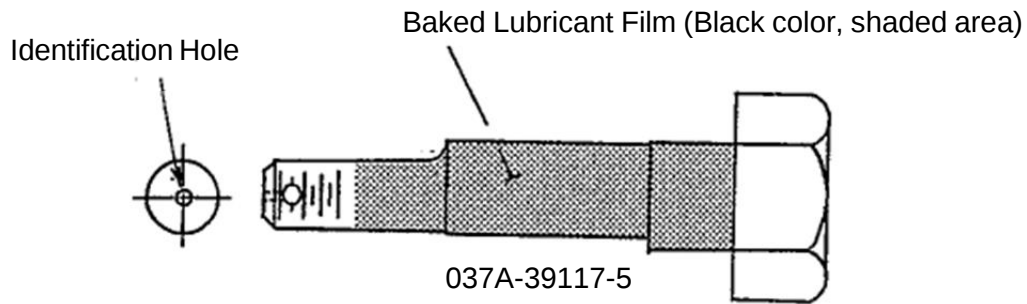

Figure 13: Eccentric Bolt Identification
- (1) Check aircraft Log Books for compliance of SB 072/32-011 Rev. "A".
- (2) Confirm the part number of Eccentric Bolt. The part number should be 037A-39117-5. Correct bolt has identification hole on the bottom of the bolt shank. (Figure 13)